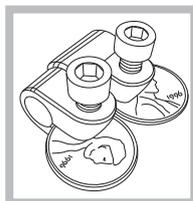

Figure 8
4. If you have difficulty installing the clamps, use the “penny trick” (Figure 8):